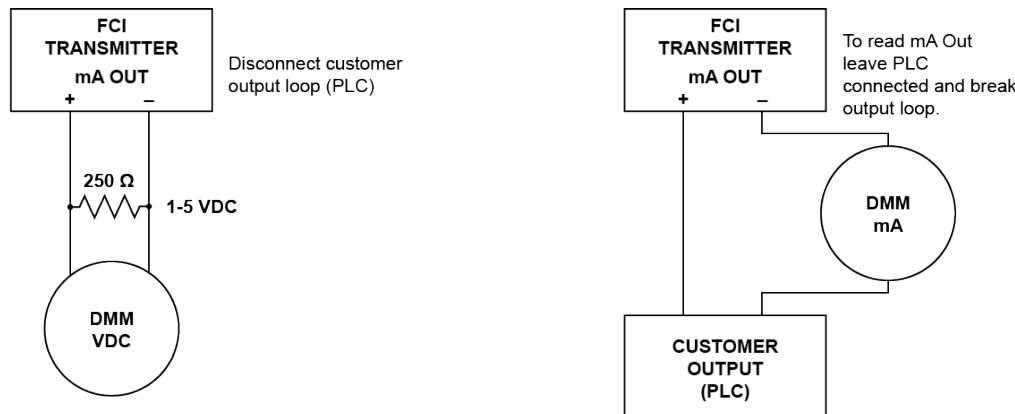

Figure 61 – DMM Hookup to Measure 4-20 mA Output
4. Connect a DMM to the transmitter 4-20 mA output by either method A or B as shown in Figure 61 below.
- a. To read 1 to 5 volts, disconnect both output loop wires and connect a precision 250  $\Omega$  resistor across the output terminal. Then connect the DMM, set to DC volts (V), across the resistor to read its voltage drop.